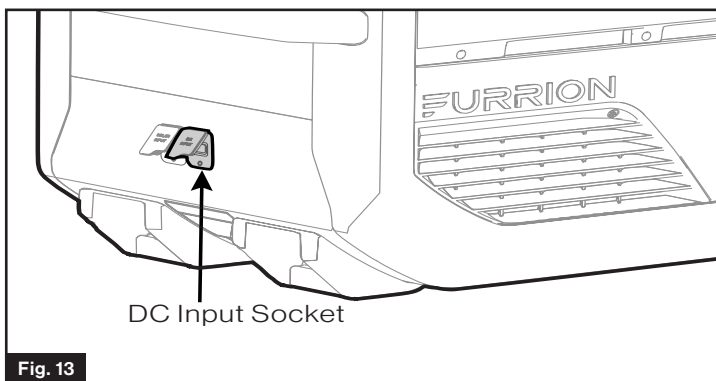

Fig. 13
1. Open the DC input socket cover. (Fig. 13)